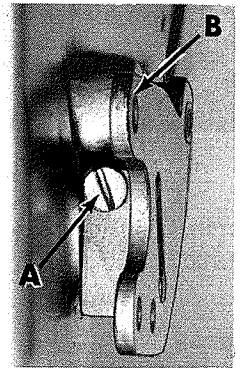
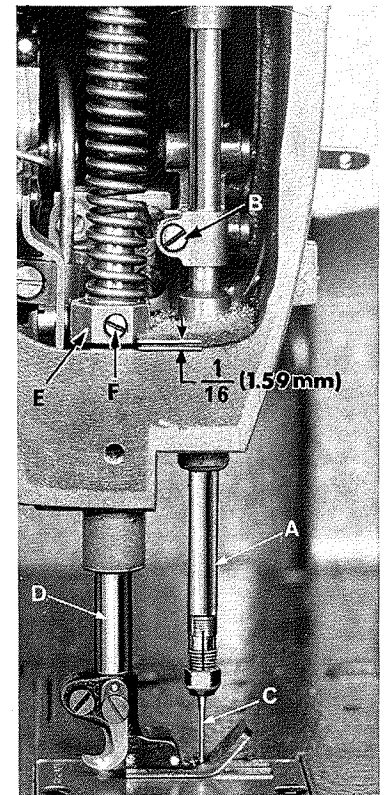

Fig. 12
Fig. 13
If adjustment is needed, loosen tension release lever screw (A, Fig. 12), located at the back of the machine and move tension disc separator as required. Retighten screw. After adjustment there should be no binding at any point.
Height of presser bar (D, Fig. 13) is set correctly if it is possible to remove the presser foot when foot lifter lever (B, Fig. 12) is fully depressed.
Also there should be approximately 1/16 inch (1.59mm) clearance between lower surface of the presser bar connection and guide (E, Fig. 13) and the bottom surface of the head opening in the bed when foot lifter lever is released and the presser foot resting on the throat plate, with feed dog down below the throat plate.
If adjustment is needed, turn handwheel in operating direction until needle bar is in the low position. Loosen screw (F, Fig. 13). While holding presser foot down on the throat plate surface, pry up presser bar connection guide with a screwdriver to obtain the 1/16 inch (1.59mm) setting and tighten screw (F). Check setting by turning handwheel so that needle bar is in its high position and see if presser foot can be removed as mentioned in previous paragraph.